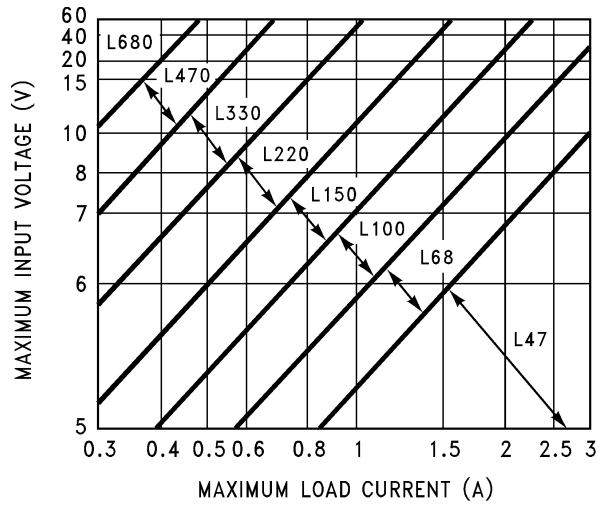
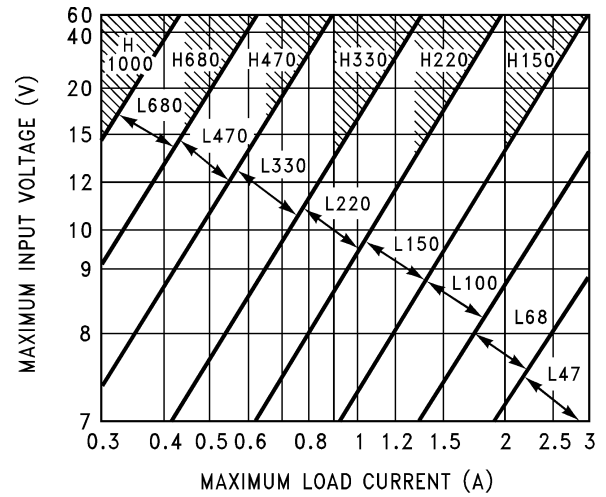
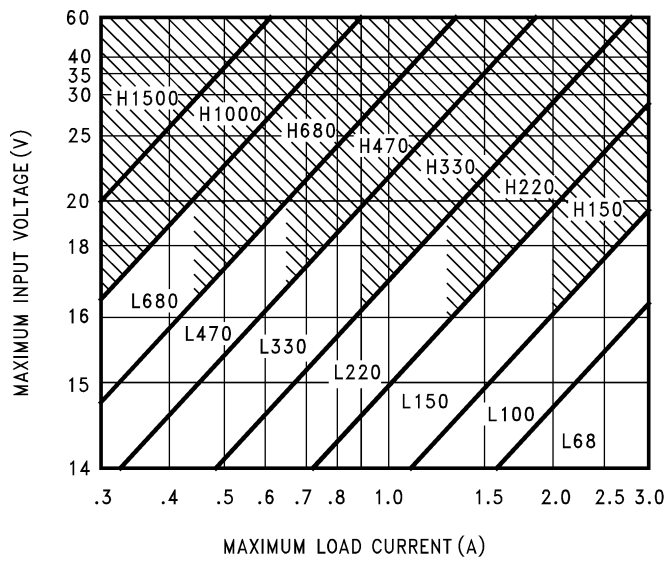

Figure 23. XH2576-3.3
Figure 24. XH2576-5.0
Figure 25. XH2576-12
1. Inductor Selection (L1) A. Select the correct Inductor value selection guide from Figure 23, Figure 24, Figure 25, or Figure 26. (Output voltages of 3.3V, 5V, 12V or 15V respectively). For other output voltages, see the design procedure for the adjustable version. B. From the inductor value selection guide, identify the inductance region intersected by $V_{IN(Max)}$ and $I_{LOAD(Max)}$, and note the inductor code for that region. C. Identify the inductor value from the inductor code, and select an appropriate inductor from the table shown in Figure 23. Part numbers are listed for three inductor manufacturers. The inductor chosen must be rated for operation at the XH2576 switching frequency (52 kHz) and for a current rating of $1.15 \times I_{LOAD}$. For additional inductor information, see INDUCTOR SELECTION.	1. Inductor Selection (L1) A. Use the selection guide shown in Figure 24. B. From the selection guide, the inductance area intersected by the 15V line and 3A line is L100. C. Inductor value required is 100 μ H. From the table in Figure 23. Choose AIE 415-0930, Pulse Engineering PE92108, or Renco RL2444.